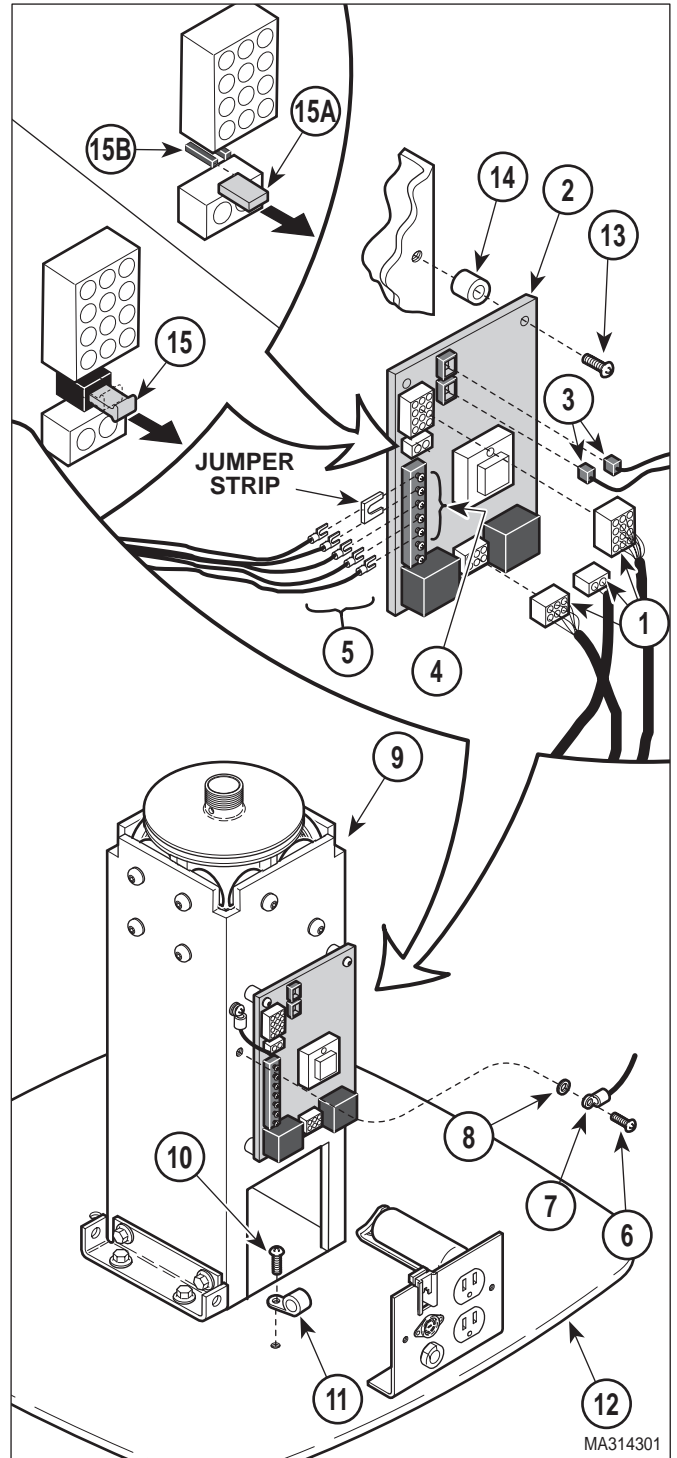

Figure 4-14. Wires Disconnection / Connection
- (7) Remove two screws (13), four screws (14), and motor cover (15) from elevation column (16).
- (8) Disconnect three wire harnesses (1, Figure 4-14) from PC control board (2).
- (9) Tag and disconnect two modular cords (3) from PC control board (2).
- (10) Loosen five terminal screws (4); then tag and disconnect five wires (5) from PC control board (2).
- (11) Remove screw (6), ground wire (7), and star washer (8) from elevation column (9).
- (12) Remove screw (10) securing cable tie (11) to base casting (12).
- (8) Align shaft of base actuator (4) with slide weldment (5); then secure shaft of base actuator to slide weldment (5) with rubber washer (3), spacer (2), and pin (1).
- (9) Secure cable tie (11, Figure 4-14) to base casting (12) and secure with screw (10).
- (10) Install starwasher (8) and ground wire (7) on elevation column (9) and secure with screw (6).
- (11) Make sure two jumper strips are installed on terminal strip of PC control board (2).
- (12) Connect five wires (5) to PC control board (2) and secure by tightening five terminal screws (4).
- (13) Connect two modular cords (3) to PC control board (2).
- (14) Connect three wire harnesses (1) to PC control board (2).